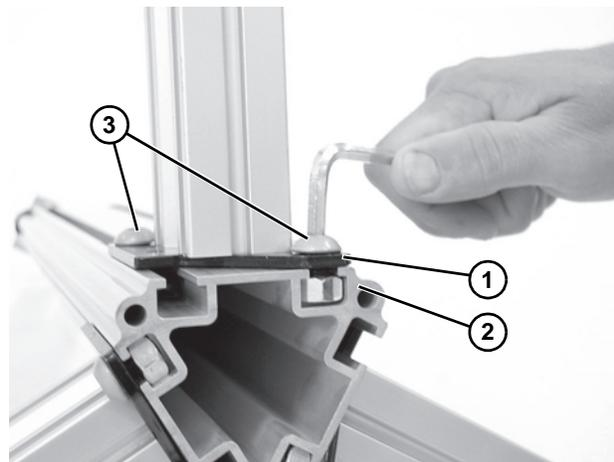

**Figure 5**
- Align the leg tube (**Figure 5, item 1**) end plate hex nuts (**Figure 5, item 2**) with the t-slots (**Figure 5, item 3**) on one side of the trileg post (**Figure 5, item 4**). Slide the hex nuts (**Figure 5, item 2**) into the T-slots (**Figure 5, item 3**).